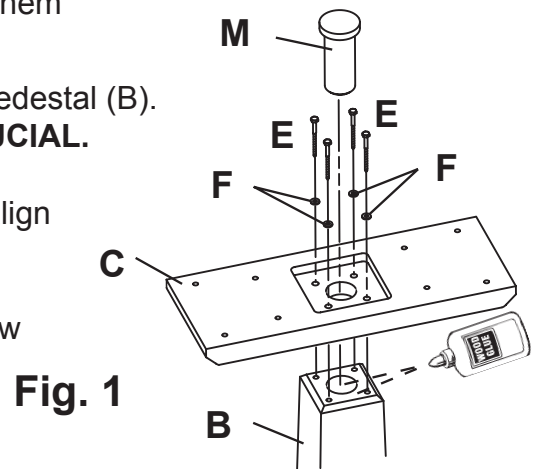

Fig. 1
To secure the Top Support (C) to the Pedestal, start the four Lag Bolts (E) and Flat Washers (F) into the Top Support and align the Lag Bolts to the predrilled holes in the Pedestal. Tap the Plug (M) down through the large hole in the Top Support and all the way into the Pedestal. The top of the Plug must be below the surface of the Top Support. Firmly tighten the Lag Bolts. See Figure 1.